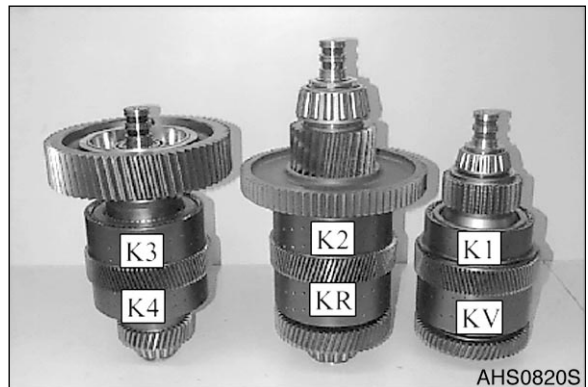

Figure 123
2. Figure 123, shows the clutches in disassembled condition.